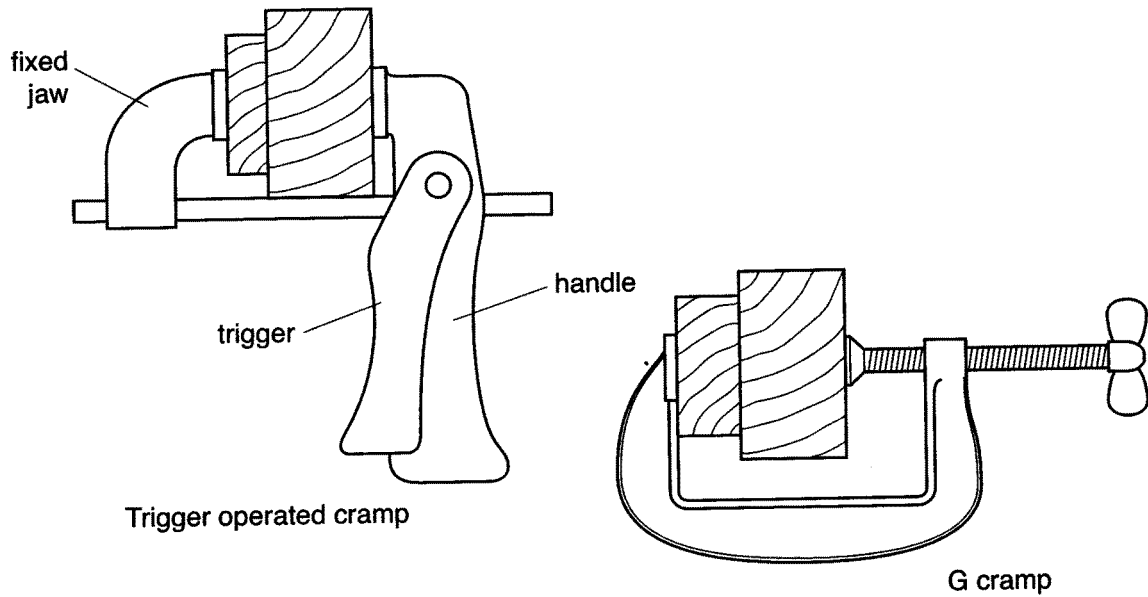

Fig. 2
- 2 Fig. 2 shows a trigger operated clamp and a G clamp holding pieces of wood together while glueing.